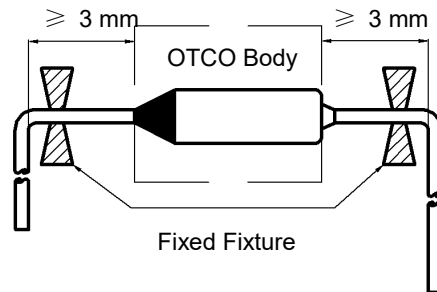

FIGURE 1
2. The lead wires should be bent at a distance 3 mm or above from the body of OTCO (see Fig.1).